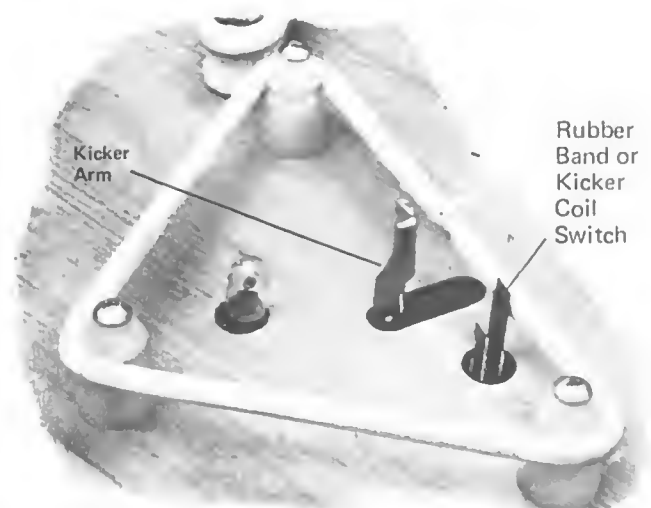

FIGURE 5
15. Adjust the rubber band switches. (Kicker Coil Switches) (Figure 5).